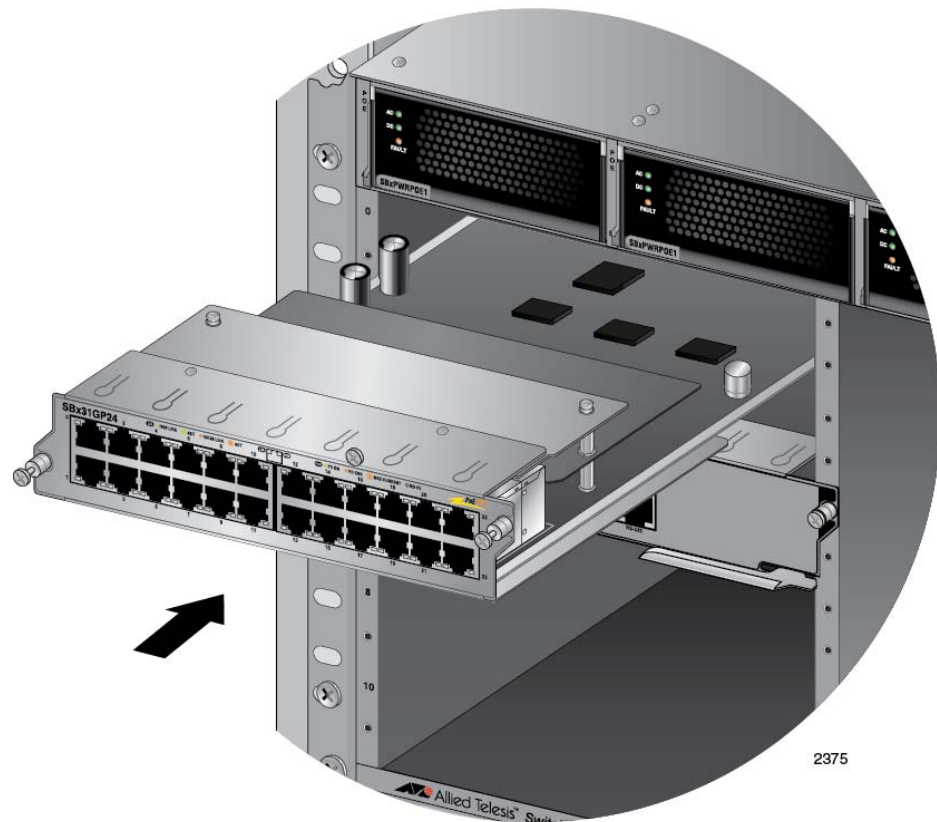

Figure 79. Inserting an Ethernet Line Card
- Insert the line card into the slot, as shown in Figure 79 on page 122, until the faceplate is firmly seated against the chassis front panel.